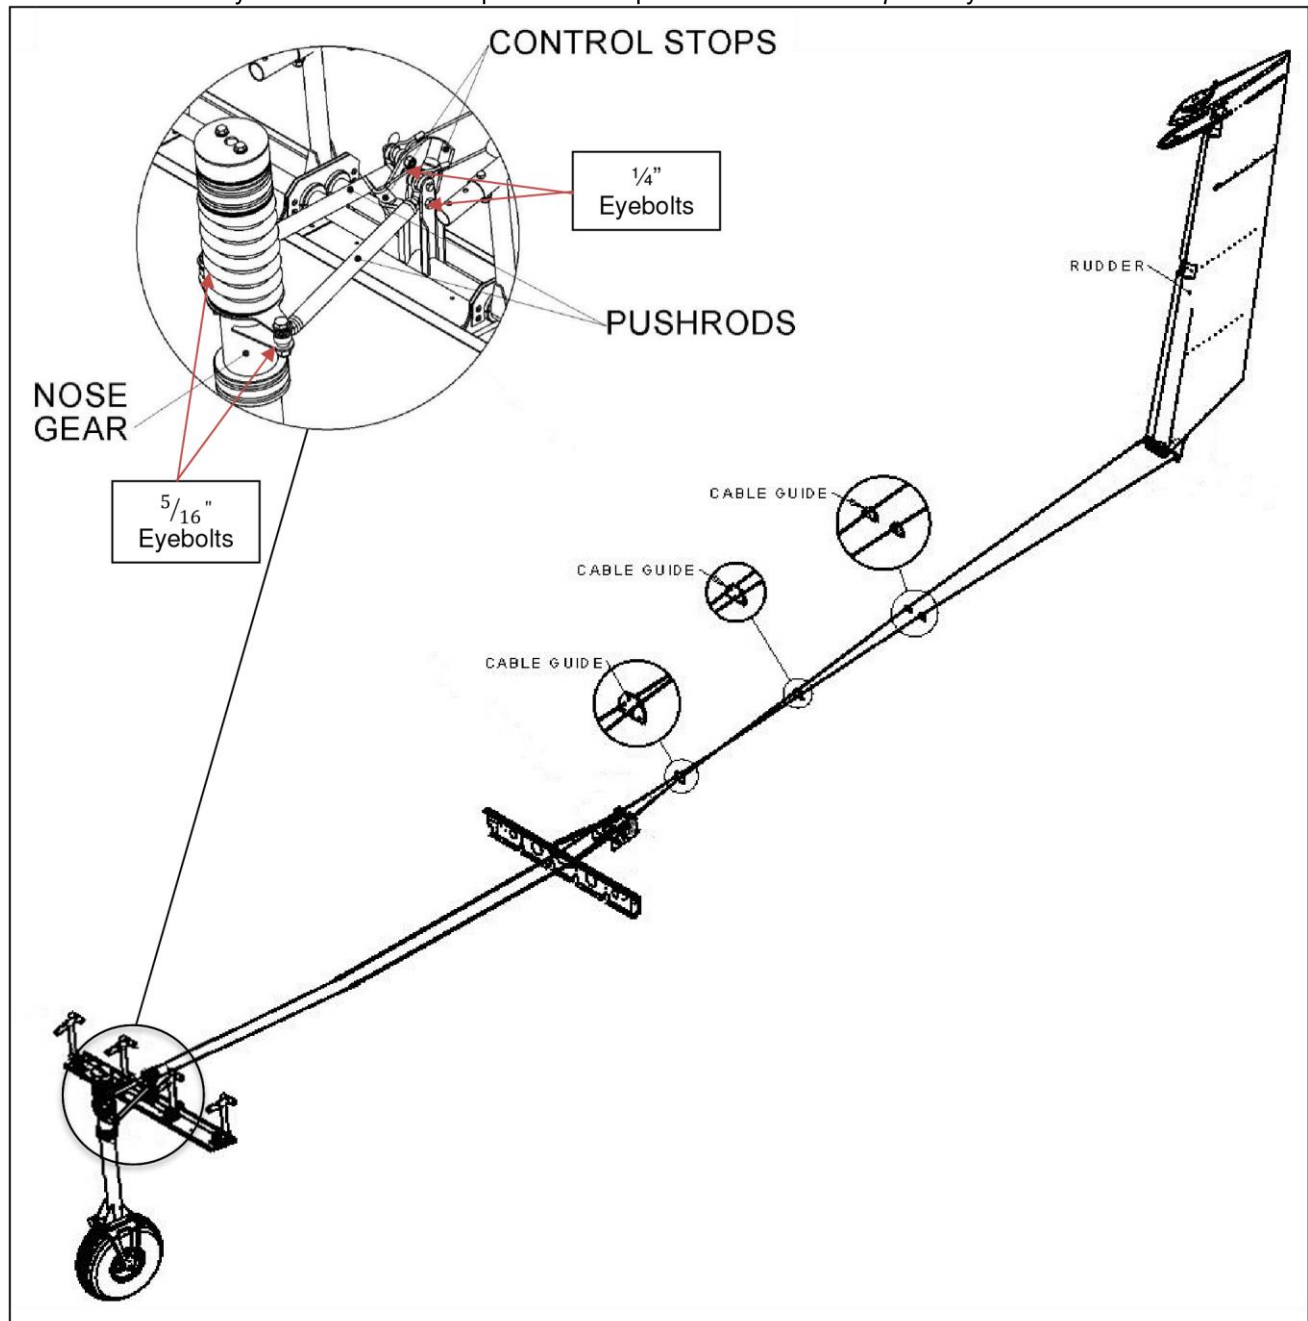
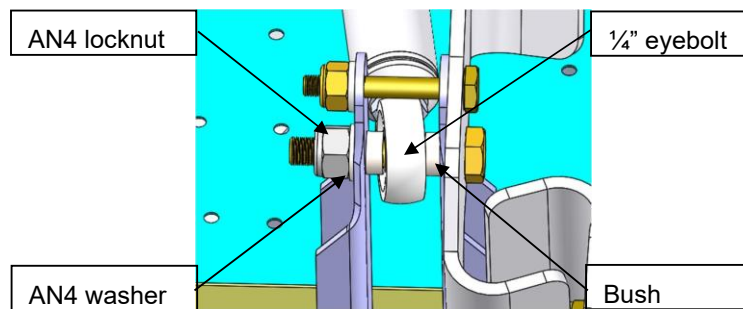

Figure 5: Rudder and Nose Wheel Controls
Figure 6: 1/4" eyebolt rudder pedal assembly
The eyebolts used in the rudder and nose wheel control arm assembly can be seen in Figure 5. The eyebolts need to be inspected and replaced where *noncompliant* eyebolts have been installed.
Step 5. Remove the 1/4" eyebolts, these are located on the rudder pedal assembly as shown in Figure 5, and can be accessed from inside the cabin. By referring to Figure 6, remove the AN4 locknut and AN4 bolt. The 1/4" eyebolt can now be uninstalled from the pushrod.
Step 6. Replace the 1/4" eyebolts with the correct type (either *type 1* or *type 2* may be used), reinstall them onto the pushrod and connect them to the rudder pedal assembly once more. Refer to Figure 6 for the way in which the components fit together.